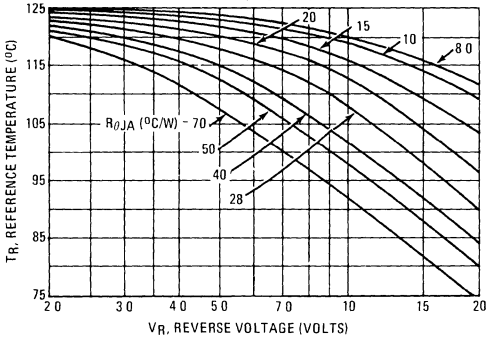

FIGURE 2 — MAXIMUM REFERENCE TEMPERATURE
Step 2. Find  $T_R$  from Figure 2. Read  $T_R = 108^\circ\text{C}$